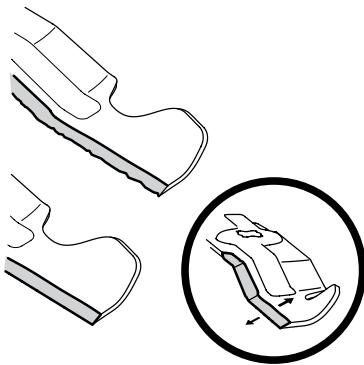

Figure 4-18
4. To properly sharpen the cutting blades, remove equal amounts of metal from both ends of the blades along the cutting edges, parallel to the trailing edge, at a 25° to 30° angle. Always grind each cutting blade edge equally to maintain proper blade balance. See Figure 4-18.